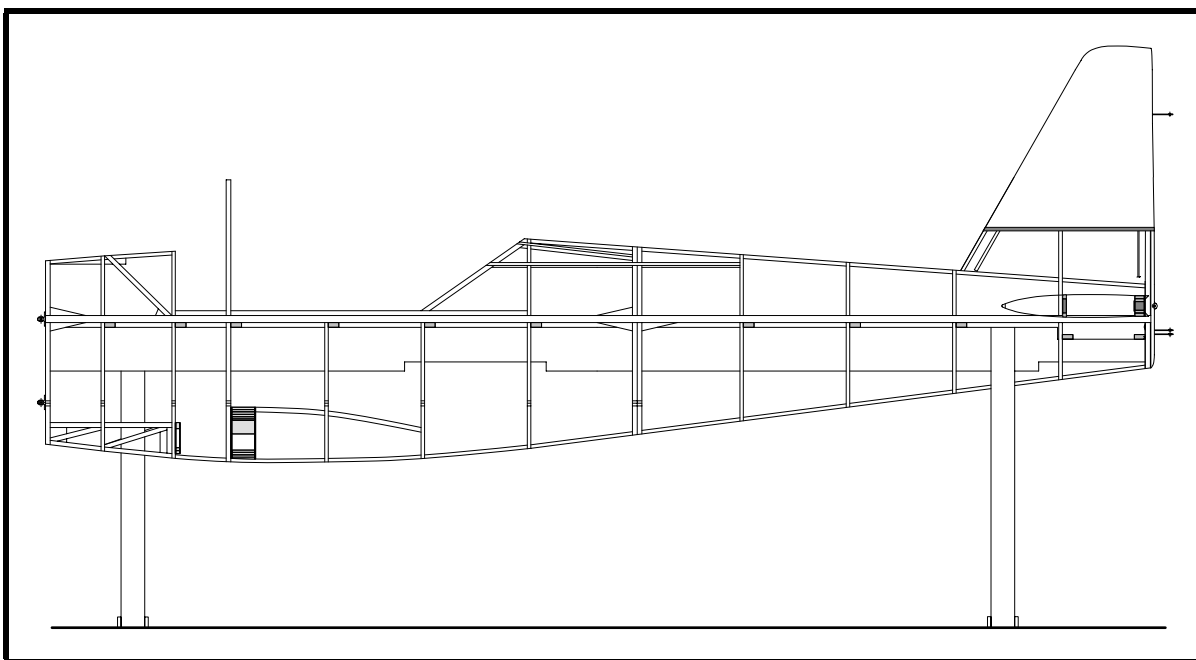

Figure 5
- ❑ Glue in place the two 20x18 spruce strips for the top of the framing for the nose gear bay walls. See Figure 5.